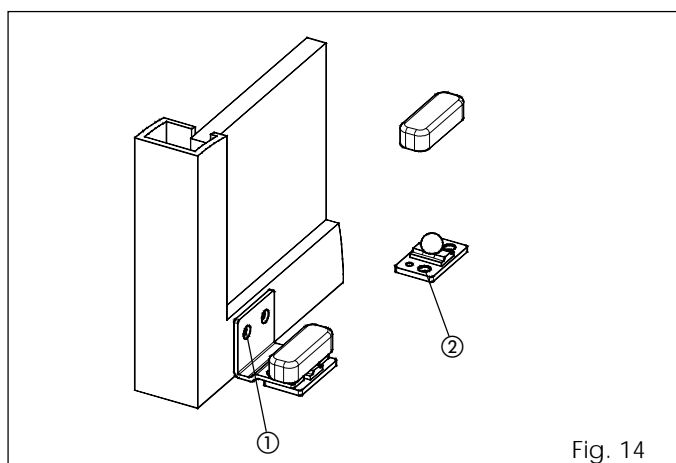

Fig. 14
- Secure the sliding blocks as shown in fig. 14. ref. ①.
- Secure the sliding block directly to the floor, as shown in fig. 14. ref. ②, using adequate expansion plugs and screws.